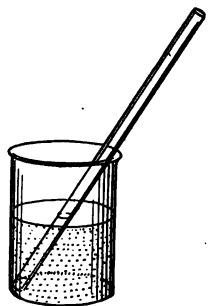
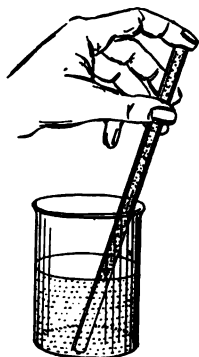

FIG. 41. — The water in the tube is at the same level as that in the glass.
FIG. 42. — Water rises in the tube when the air is withdrawn.
77. Air Pressure. If an empty tube (Fig. 41) is placed upright in water, the water will not rise in the tube, but if the tube is put in water and the air is then drawn out of the tube by the mouth, the water will rise in the tube (Fig. 42). This is what happens when we take lemonade through a straw. When the air is withdrawn from the straw by the mouth, the pressure within the straw is reduced, and the liquid is forced up the straw by the air pressure on the surface of the liquid in the glass. Even the ancient Greeks and Romans knew that water would rise in a tube when the pressure within the tube was reduced, and hence they tried to obtain water from wells in this fashion, but the water could never be raised higher than 32 feet. Let us see why water could rise 32 feet and no more. If an empty pipe is placed in a